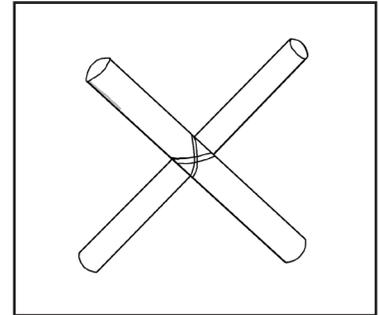

Fig. 1
6. To join pieces at a 90-degree angle (forming a T or X shape), lash them securely. There are several ways to lash materials together, but the most common is square lashing, which prevents the pieces from sliding or becoming unstable. To lash, tie a knot at the cross points of the two pieces, forming an X shape with the string around the T shape of the frame. See figure 1 for reference.